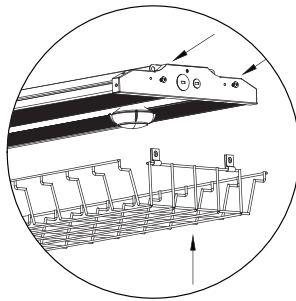

Figure 2
3. Using the provided screws, fasten the clips to the fixture body by screwing the clips into the fixture's pre-drilled holes (**Fig. 2**)